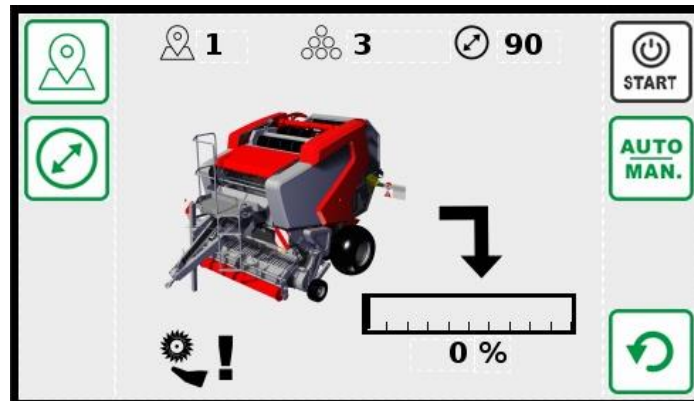

Figure 41. Control panel - closing the rear chamber
After the bale has left the chamber, the screen of the cheese panel displays the graphics shown in Figure 41. Then, close the rear chamber and start producing more bales, or stop the operation completely.
- Open the rear flap using the single-acting valve; The bale will roll down on the ground, along the ejector. The control panel will display the screen shown in Figure 41;